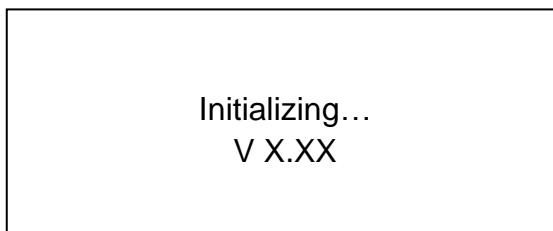

Figure 7-1 Initialization interface
- The LCD screen displays a welcome interface and shows the accumulative total running time, in the meantime, this centrifuge starts a self-checking process for preparation. (see Figure 7-1).